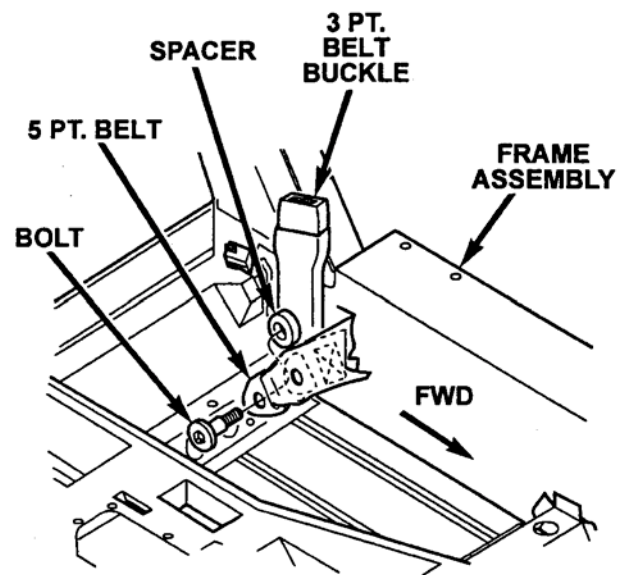
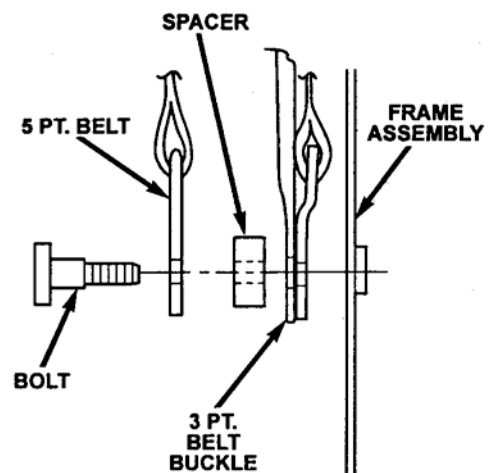

Figure 1 – Left Side Shown
Figure 2
4. Remove the outboard lower driver's seat belt anchor bolt from the frame (Figure 1). Remove the 5-point harness outboard lap belt from the vehicle. Do NOT remove the 3-point seat belt buckle assembly. Set the 5-point harness lap belt and anchor bolt aside for return to the Material Return Center.
5. Install the new 5-point harness outboard lap belt on one of the supplied anchor bolts. Install a new anchor spacer on the bolt so that it will be located between the two seat belt anchors (Figure 2). Install the anchor bolt through the 3-point seat belt buckle assembly and into the frame (Figure 1). Tighten the anchor bolt to 350 in-lbs (40 N·m).